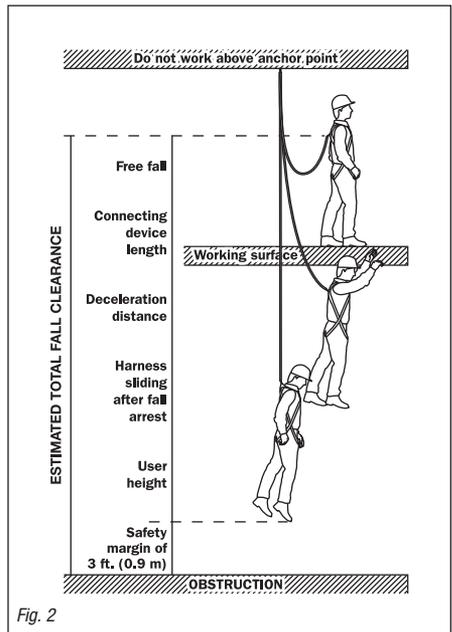

Fig. 2
3.2.1 There must be sufficient clearance beneath the working area or potential fall path to arrest the fall prior to striking any obstruction or level below. Use of additional products may affect the clearance distance. Ensure to incorporate a deceleration distances as per *Figure 2* in the calculation of the estimated total fall distance.